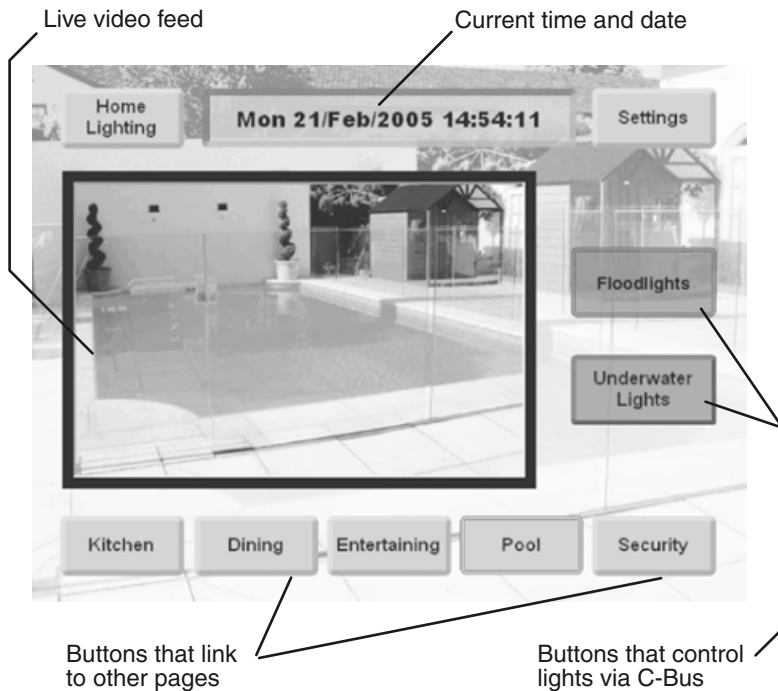

Figure 2. C-Touch Colour page which displays a live video feed
- Most pages contain buttons that control appliances such as lights, fans and curtains. Some pages contain slider controls or radio buttons that adjust lighting levels or select from a range of options. Pages can also display local or networked HTML documents, or a video feed from an IP camera (such as in Figure 2).